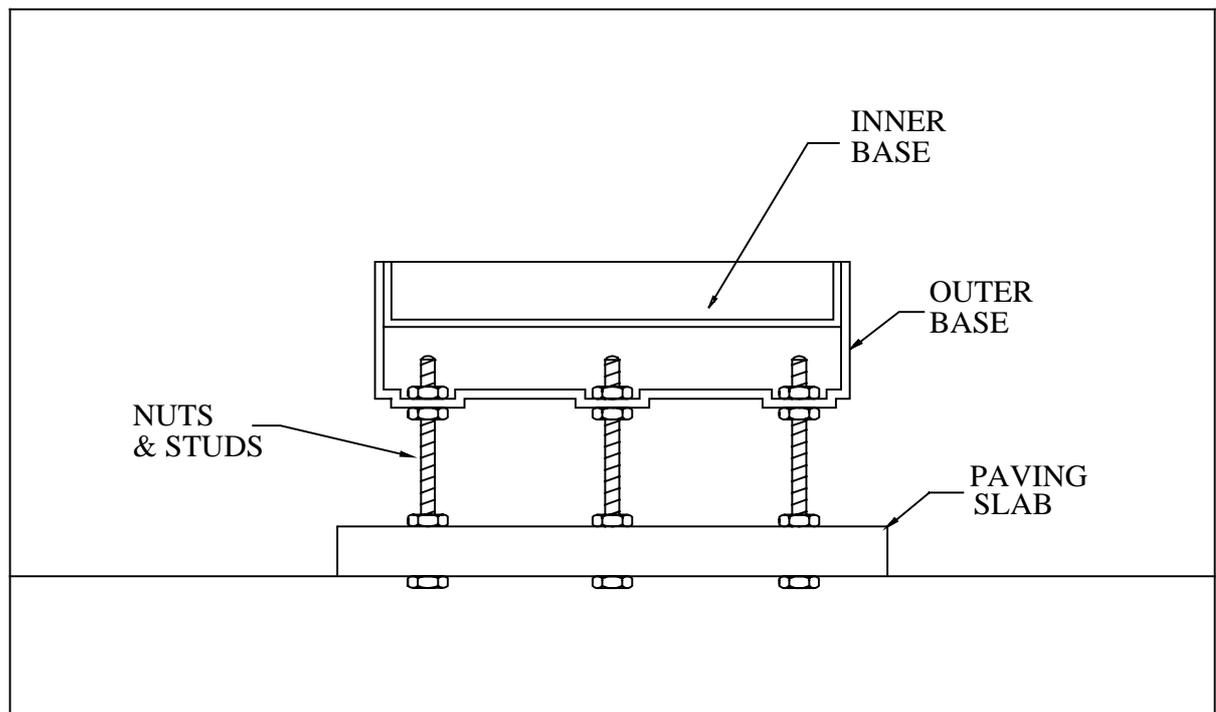

FIGURE 2 THE PAVING SLAB METHOD IN DETAIL.
3. Assemble all as shown as in figure 2.